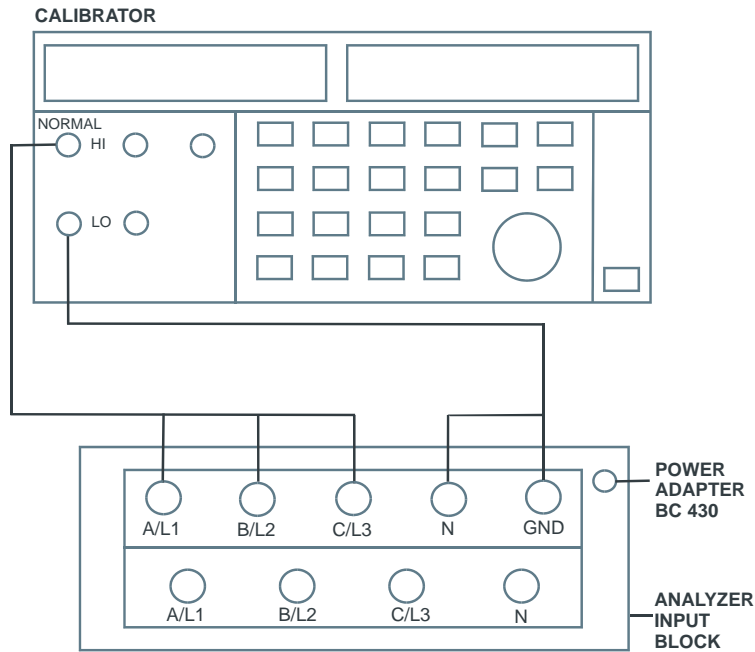

Figure 4-2. Checking the A/L1, B/L2, and C/L3 voltage inputs
3. Connect the LO output (black) with the Ground (green) input of the Analyzer. Connect the HI output (red) with all current (BNC) inputs and the A/L1, B/L2, C/L3, and N voltage banana inputs of the Analyzer. Refer to Figure 4.2.